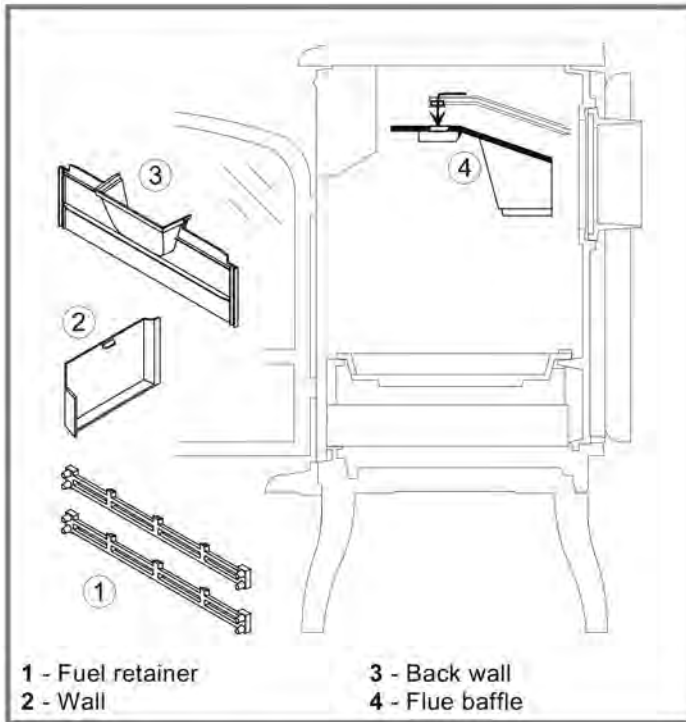
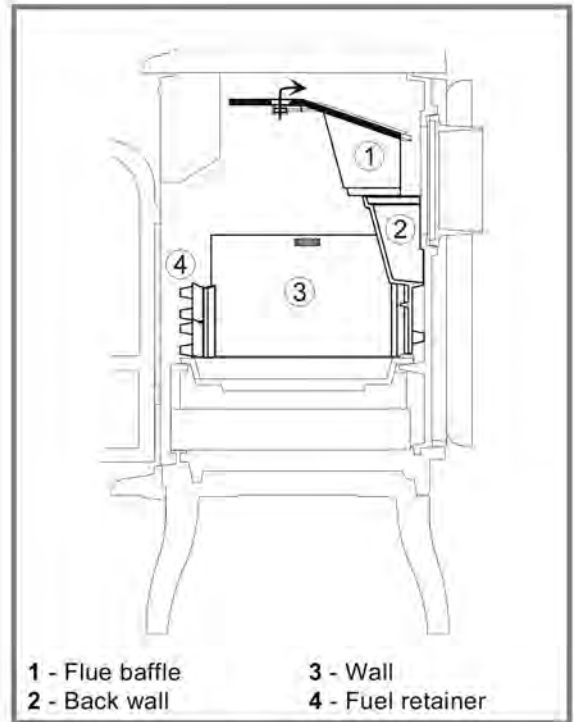

Figure 7 Removing the flue baffle
Figure 8 Put back into position the elements
1) Remove the two parts of the log guard (1: fig 7). Lift the right side upwards and slide the left side out of the casting on the right then both parts can then be withdrawn from the stove. Remember when replacing that the lugs on the guard face outwards.
2) Removing the baffle (4: fig 7) is best accomplished with the side door open. Carefully with both hands, as the baffle is very heavy, lift the baffle upwards about 1cm, slide it towards the front of the stove until it is clear of the two lugs on the side of the body, drop it down towards the front of the stove. It can then be removed from the stove by angling it out of the side door and then out of the main door. When reinstalling ensure that the two cut outs either side of the baffle (4: fig 8) pass over the lugs so when slid back it is held up in place.
3) Remove both the left hand side cast iron protection plate (2: fig 7) and the rear cast iron protection plate (3: fig 7).